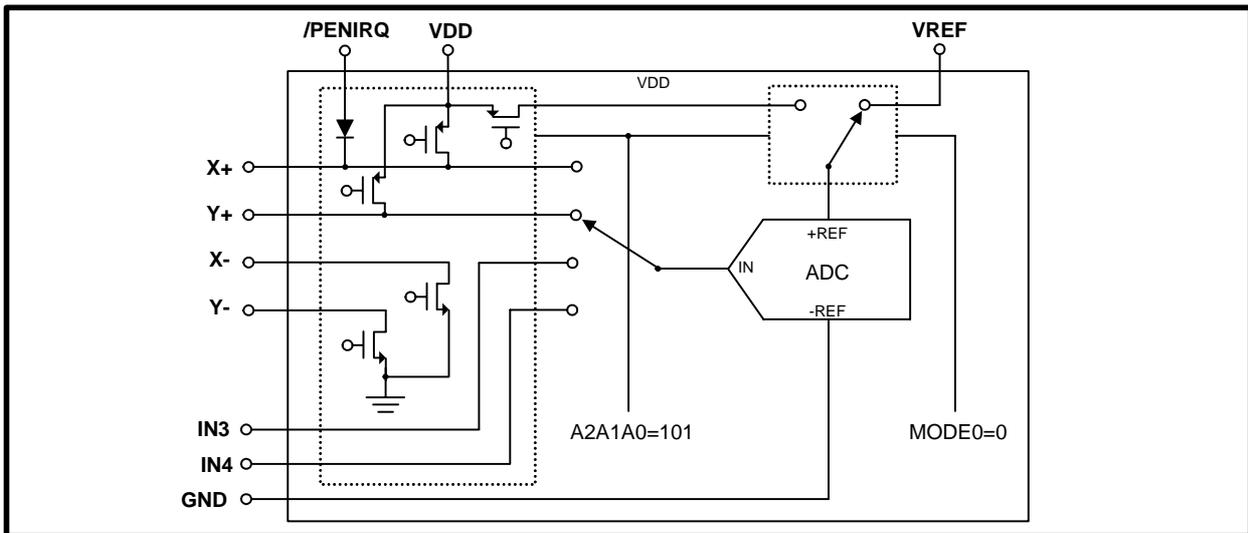

Figure 5. Diagram of Input Channel and Reference Input
UH7843 contains four channel inputs, a serial interface and low on-resistance switches for touch screen (see Block Diagram). The input to the converter is selected via the four-channel multiplexer as shown in Figure 5.
The next three bits on the control byte (A2,A1,A0) select the active input channel of the input multiplexer (see table III and Figure 5) and the touch screen drivers (X / Y switch).
The Mode Bits (MODE1, MODE0) set the resolution and the reference input of the analog-to-digital (ADC) converter. With Mode1 bit low (0), the following conversion will have 12-bit resolution. With Mode1 bit high (1), the following conversion will have 8-bit resolution. MODE0 bit sets the reference input of the ADC (see Reference Input section and Figure 5). Table IV shows detailed information of the Mode Bits.
UH7843 contains four channel inputs. X+ and Y+ inputs are for touch screen measurement. Two auxiliary inputs are IN3 and IN4. The input to the A/D converter is selected via the four-channel multiplexer. (See Block Diagram section and Figure 5.)
Table III shows the input channel configuration of UH7843. The control bits are set via DIN pin. (See Control Byte section.) The selected channel is for A/D converter input. Please refer to Figure 5 for detailed input channel multiplexer. For measuring X+ and Y+, Y switches and X switches are turned on respectively.
UH7843 requires a reference input voltage source. The voltage difference between +REF and -REF (shown in Figure 5), in the range of 1V to +VDD, sets the analog-to-digital converter (ADC) input range. The full-scale analog input range of UH7843 is thus from 0V to VREF.